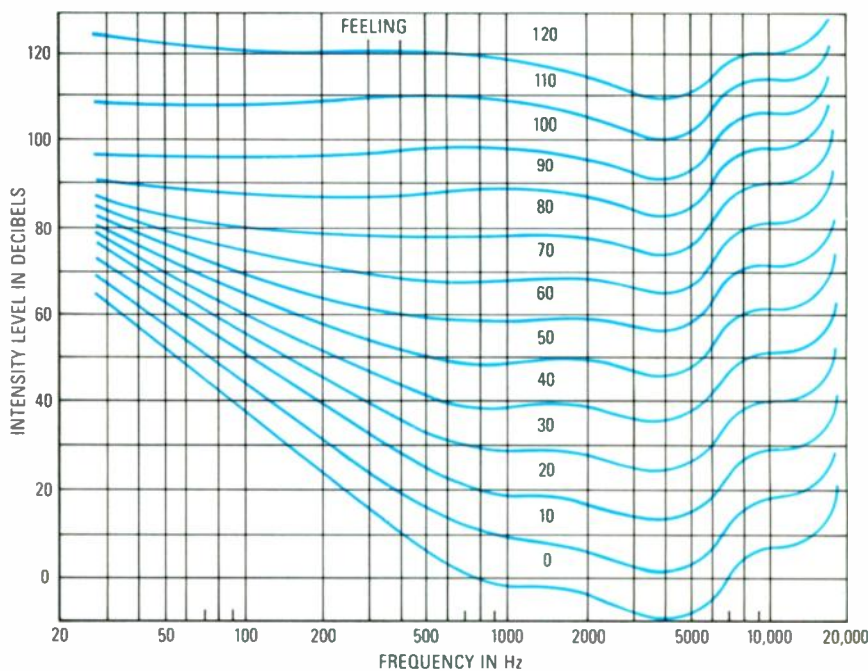

FIG. 1
The significant differences between the subjective and objective worlds of sound are illustrated nicely by the inconsistent ways in which the ear responds to frequency and intensity—or in psychoacoustic terms, *pitch* and *loudness*. Three examples: (1) More than fifty years ago Harvey Fletcher demonstrated that the subjective judgment of the pitch of a pure tone can be shifted as much as 10% by simply varying the intensity of the sound. (2) Aside from the pitch shift, as shown in Fig. 1, the human ear's sensitivity to low- and high-frequency ranges diminishes disproportionately as the volume (intensity) of the sound is reduced. The loudness controls found on most amplifiers and receivers are meant to compensate for that fact. (3) Most of us are aware that the ear does not respond linearly to increases in the intensity of the stimulus. For example, the measured acoustic power of a sound has to be raised about *ten times* before the average person hears it as merely *twice* as loud.